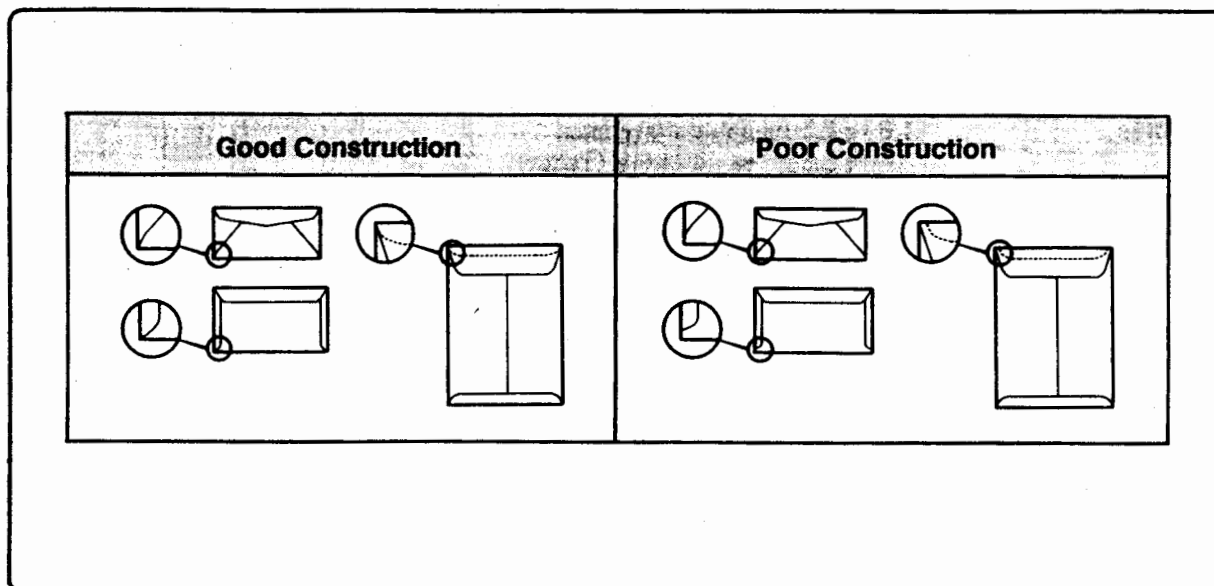

Figure 2-3. Good and Poor Envelope Construction
A wide variety of envelopes have been tested and most have performed acceptably. However, some envelopes will not feed through the printer because of their construction. A suitable envelope should have not more than two thicknesses of paper along the leading edge (the edge that enters the printer first, see Figure 2-3) and the leading edge should be straight with a sharp, well-creased fold. Flimsy envelopes lacking stiffness or those having curved leading edges will not reliably feed into the printer. Also, envelopes having "baggy" construction may wrinkle while going through the printer's fuser. Poor results also occur when envelopes are folded smaller than normal, causing a thick leading edge near a corner. The folding accuracy of some manufacturers' envelopes may vary enough to cause some envelopes to feed well and other, apparently similar, envelopes to jam.
- Poorly manufactured envelopes with leading edges having more than two thicknesses of paper and that are not consistently square and straight (see Figure 2-3).